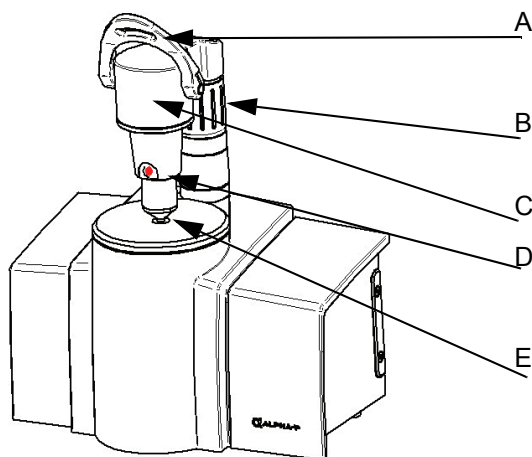

Figure 4.7: Pressure applicator with ALPHA-P sampling module
To adjust the height of the complete pressure arm (C in figure 4.7) is required if:
• Lever (A in figure 4.7) turned to the outermost front position • Anvil (E) has not yet any contact with the sample • Red spot below round recess	Move pressure arm (C) downwards: ➡ rotate knob (B) clockwise ➡ rotate knob (B) until the red spot (D) is exactly in the middle of the round recess
• Lever (A in figure 4.7) cannot be turned to the outermost front position as the sample is too thick • Red spot above round recess	Move pressure arm (C) upwards: ➡ rotate knob (B) counterclockwise ➡ rotate knob (B) until the red spot (D) is exactly in the middle of the round recess